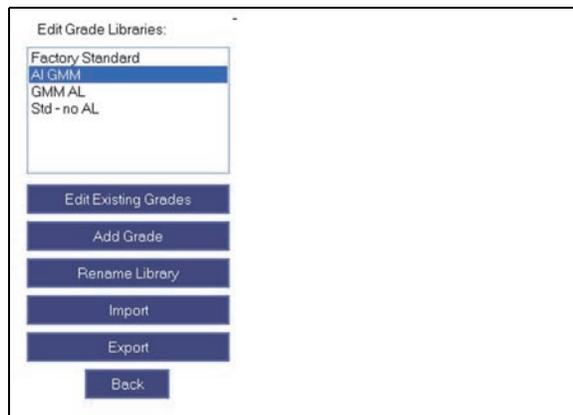

Figure 2-9 The Edit Grade Library pane
1. In the **Grade Libraries** pane, click **Edit Library** (see Figure 2-9 on page 55).
2. In the **Edit Grade Libraries** area, select a grade library, and then click **Edit Existing Grades** (see Figure 2-9 on page 55).
1. In the **Edit Grade Libraries** pane (see Figure 2-9 on page 55), click **Add Grade**.